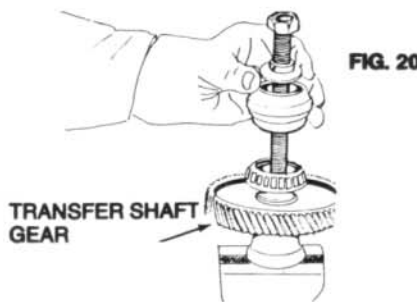

FIG. 20
6. Place **5/8 THIN WASHER** over **PULLER SHAFT**. (Fig. 20)